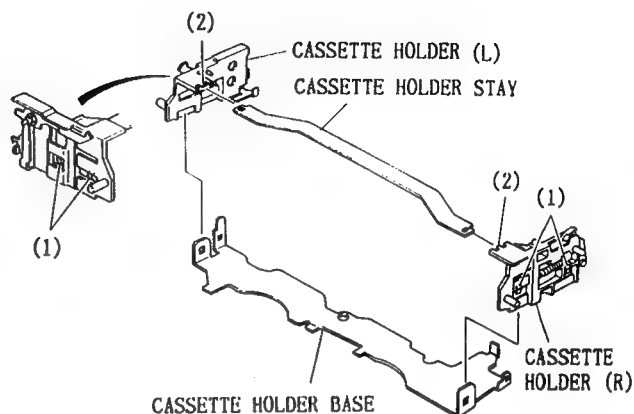

Fig. 5-3 Cassette Holder Base and Cassette Holders (L/R)
3. Cassette Holder Base and Cassette Holders (L/R) (Fig. 5-3)